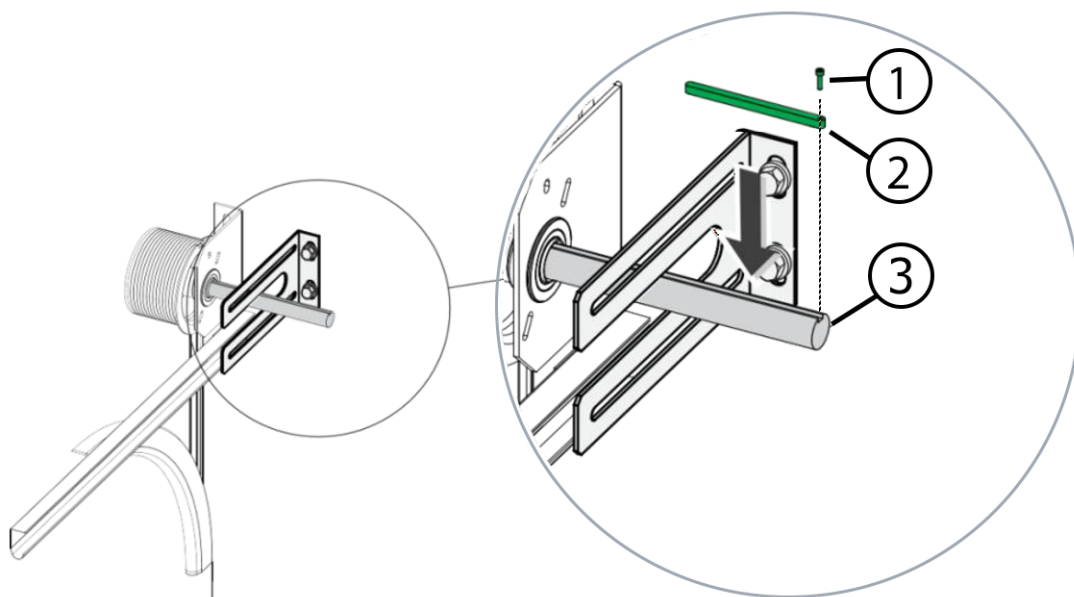

Fig 2
9. Set the drive shaft of the door operator to match the position of the anti-twist device (key, position 8 in Fig. 2). To do this, turn the transmission using the emergency operation.
11. Slide the door operator onto the door drive shaft (1).